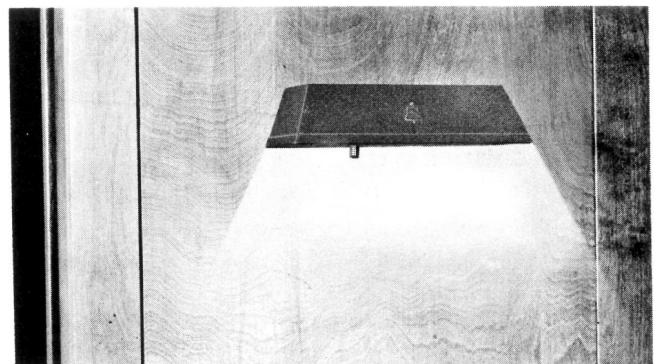

Fig. 1 — 2-Type Light Fixture
2.01 The 2-type light fixture consists of a metal shade provided with a pull-chain lamp socket (Fig. 1).